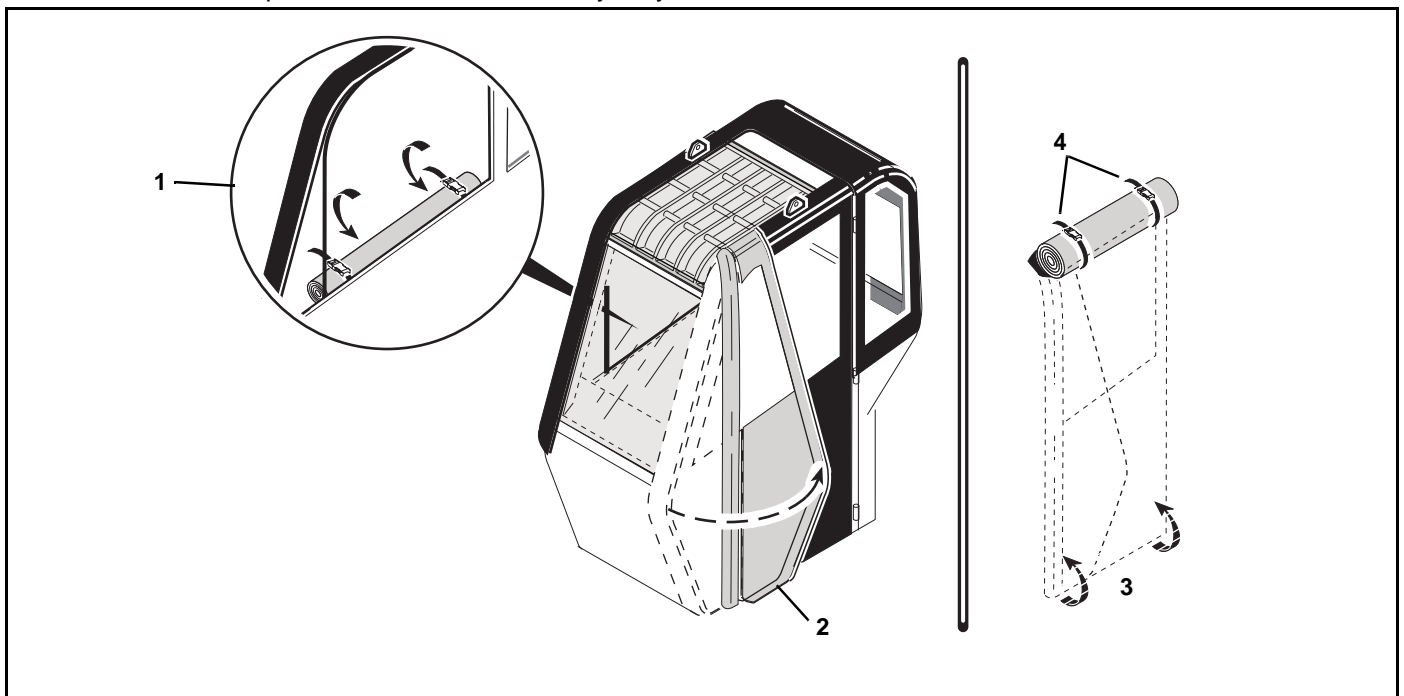

Figure 11
1. To open the window and secure in the lowered position, roll the window out and downward and secure with the straps and clip (Figure 11, 1).
2. The entire door can either be folded over (Figure 11, 2); rolled up (3) and secured in place (4); or be removed (after folding, rolling and securing) to provide the maximum door opening, or for storing when not in use.